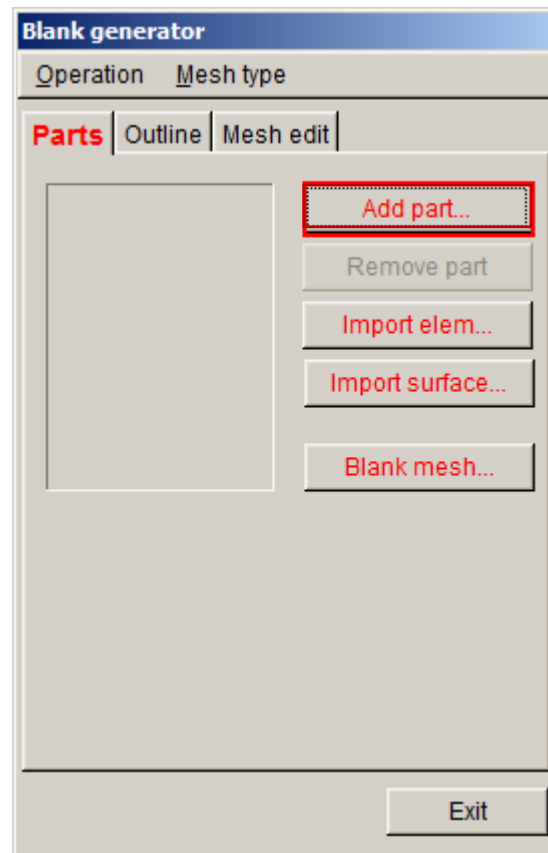

Figure 1.7 Blank generator dialog box
- The Blank Generator dialog box illustrated in Figure 1.7 is displayed.